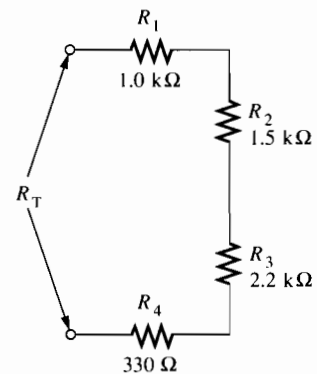

Figure 7-3
2. Connect the resistors in series as illustrated in Figure 7-3. Test various combinations of series resistors. Can you conclude that the total resistance of series resistors is the sum of the individual resistors? Then measure the total resistance of the series connection and verify that it agrees with your computed value. Enter your measured value in Table 7-1.